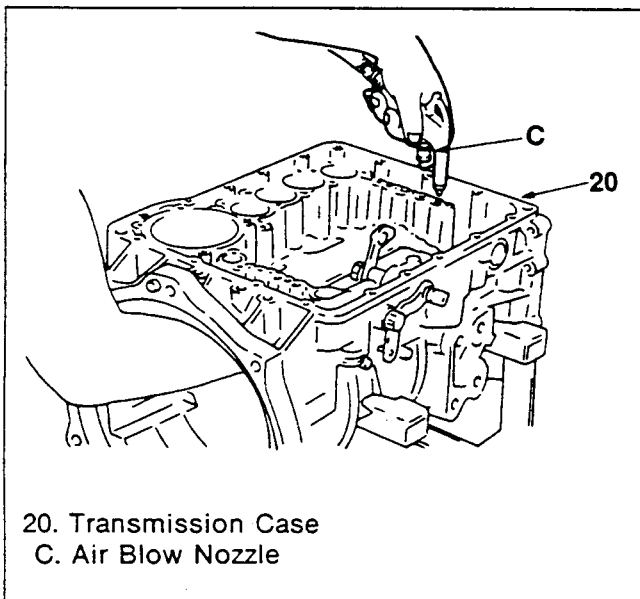

Figure 147. Clutch Piston Removal (1)
Piston (Figures 147 and 148)
1. Put the forward clutch drum and the low one-way clutch inner race together, blow air little by little into the oil hole and remove the forward clutch piston and overrun clutch piston together (figure 147).